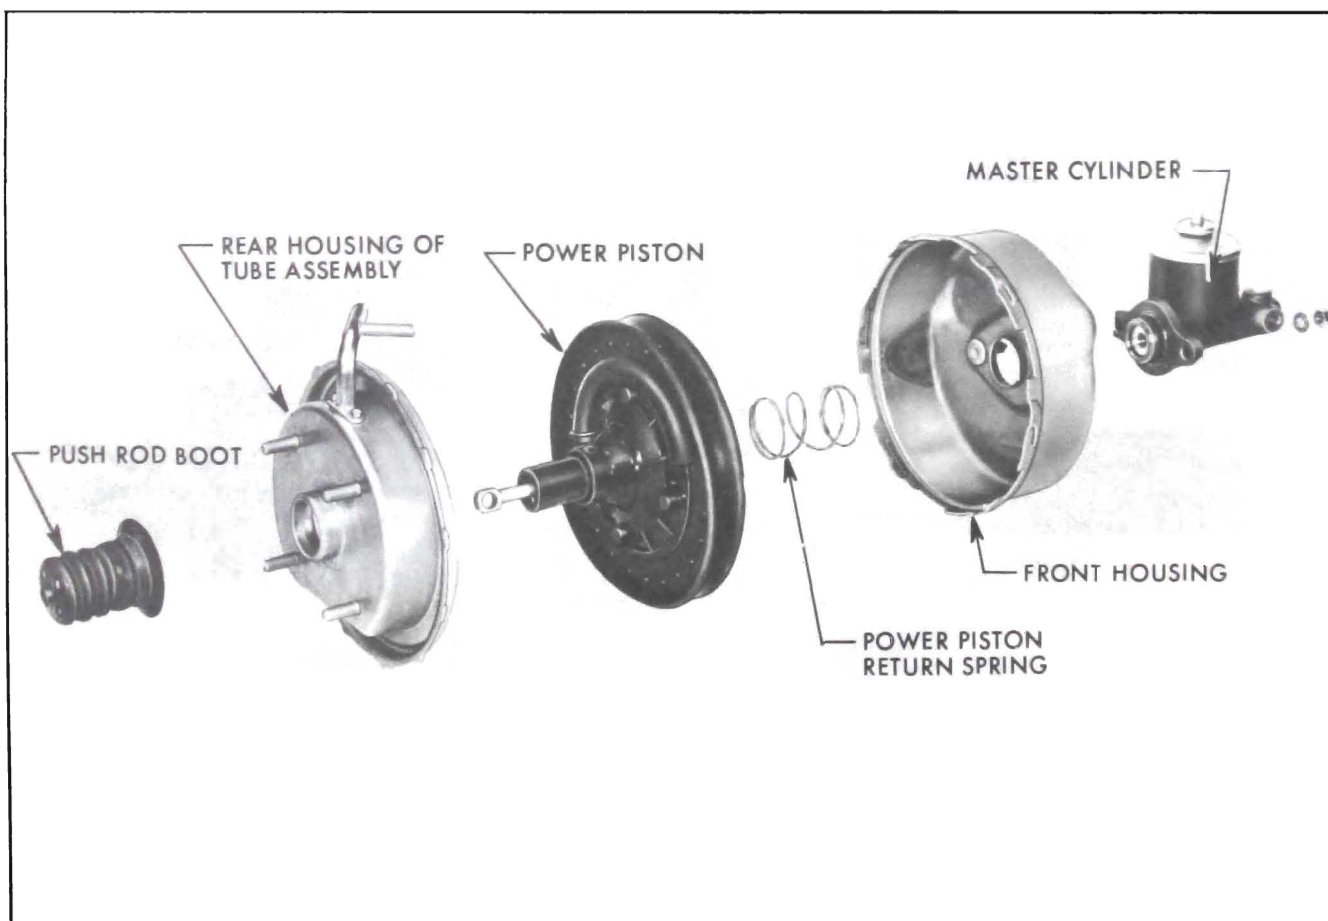

Figure 9-20—Major Parts of Power Brake Unit
13. From floating control valve and diaphragm assembly (Figure 9-20), remove floating control valve spring retainer. Remove reaction diaphragm retainer from under lip of reaction diaphragm,